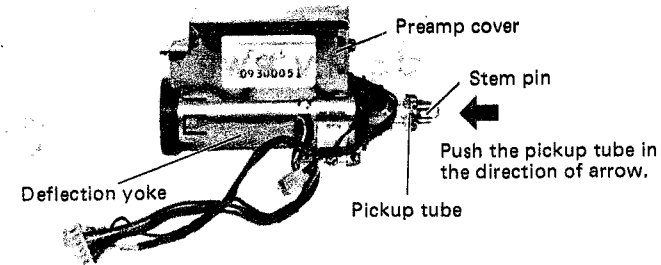

Fig. 1-12
- For taking out the pickup tube by pushing the stem pin side, refer to Fig. 1-12.